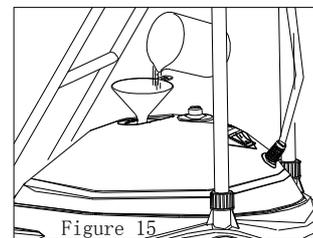

Figure 15
2. Using the measuring cup and funnel provided, fill water reservoir with no more than 2500ml of water. (As shown in figure 15). Do NOT add detergent or other chemicals to the water reservoir. Doing so may result in damage to the appliance.